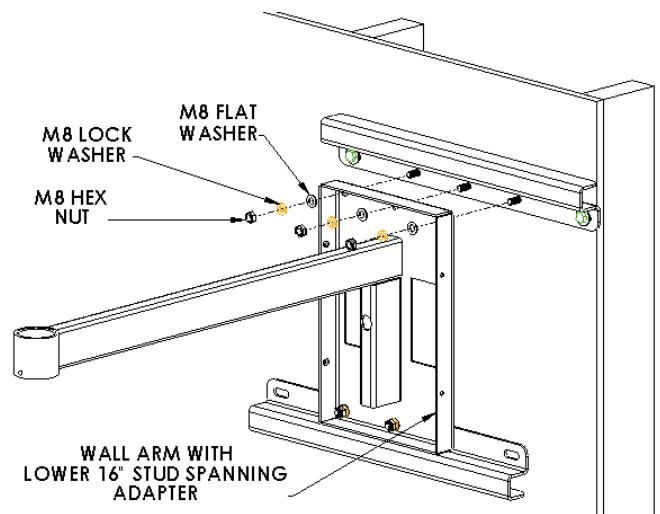

Figure 4. Attach Wall Arm to Wall-Mounted Stud Spanning Adapter
1. Locate three M8 hex nuts (80), three M8 lock washers (70), and three M8 flat washers (60).
- a. Lift the wall arm (10) onto the top wall-mounted 16" stud-spanning adapter (20). See Figure 4.
- b. Secure the wall arm (10) to the top wall-mounted 16" stud-spanning adapter (20) using three M8 hex nuts (80), three M8 lock washers (70), and three M8 flat washers (60). Tighten hex nuts.